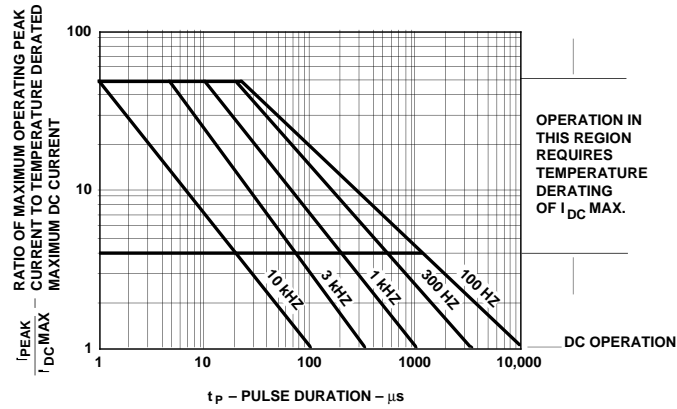

Figure 1. Maximum Allowable Peak Current vs. Pulse Duration – Red.
- See Figure 1 to establish pulsed conditions.